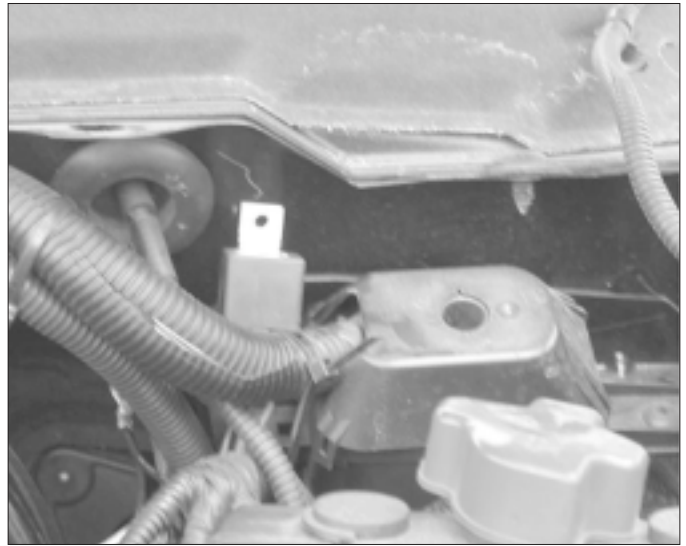

Fig. 7-b
- A. Find a suitable location on the driver's side of the vehicle. (See Fig. 7-b.) Locate the fuel pump relay as close to the battery and fuse box as possible. The location of the relay shown is just for reference as some vehicles may be different. Generally you want the relay to be as close to the battery as possible.